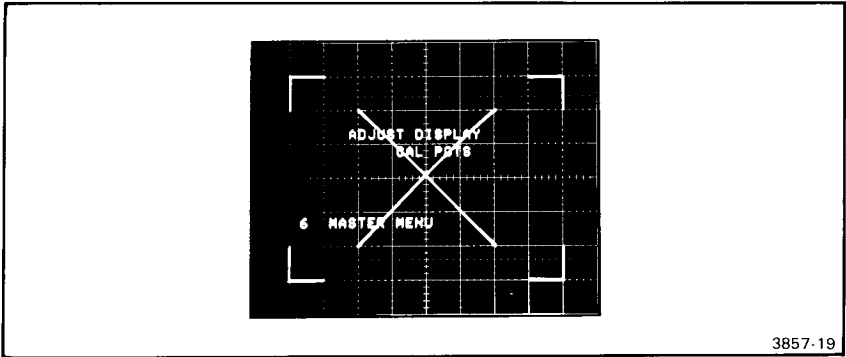

Figure 2-11. Correctly adjusted DISPIAY CAL PATTERN.
Step 6 When you are satisfied the display is properly aligned with the graticule and the vector display is adequately compensated as shown in Figure 2-11, press MEMORY DISPLAY key 6 to return the MASTER MENU to the display. Press the MENU key to extinguish the MENU display and proceed with the following instructions.